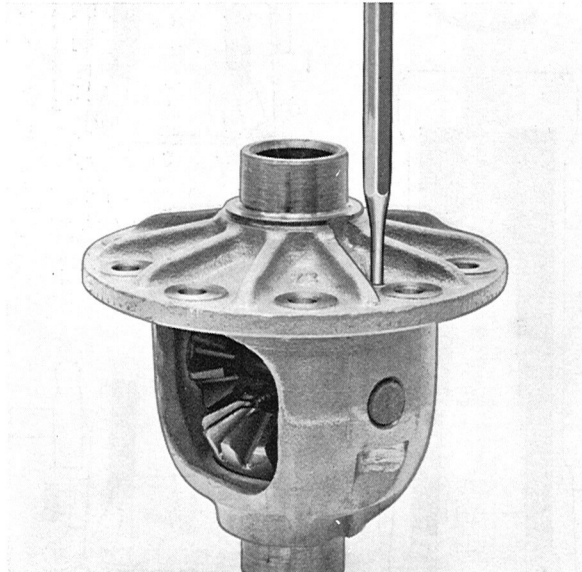

Fig. 4-160. Removing lock pin
3. Drive out the lock pin, see Fig. 4-160, and the shaft for the differential gears. Lift out the block, the differential gears and the thrust washers.